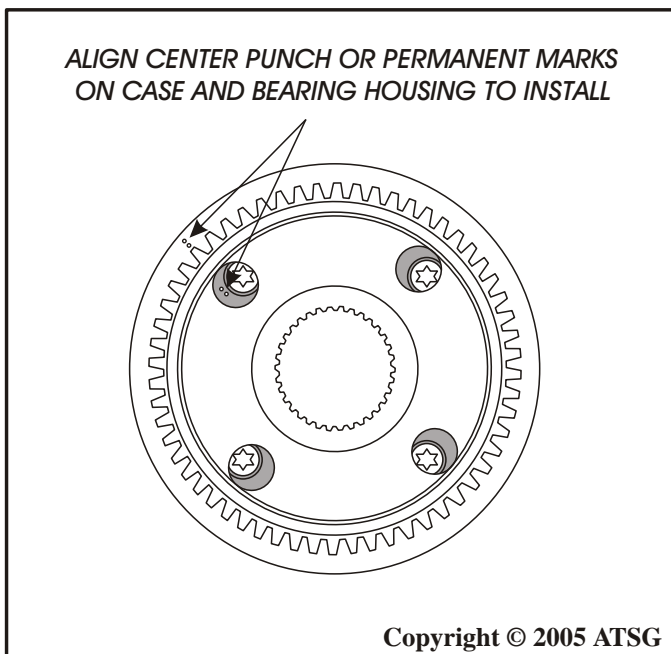

Figure 159
16. Align the reference marks that you put on the case and bearing housing during disassembly, as shown in Figure 159.